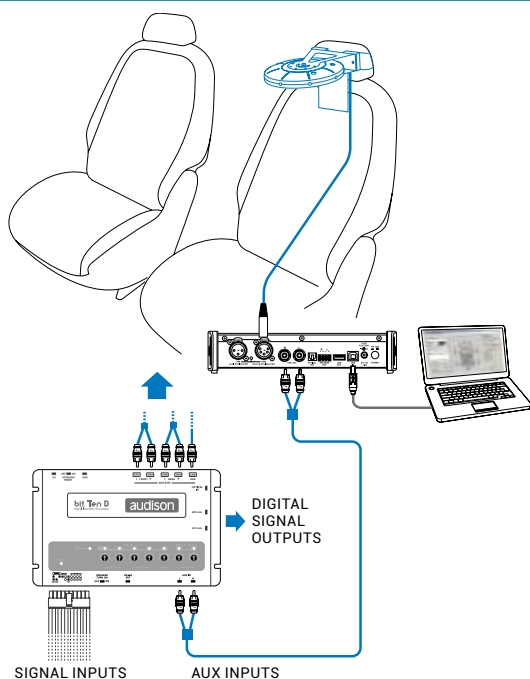

Fig 1.
1. Connect the bit Tune to the Audison bit processor, as shown in fig. 1, 2 or 3 (see points **A**, **B** and **C**). The AUTO TIME ALIGNMENT procedure must be performed in an environment that is not noisy, with the car's engine off, air conditioning off, doors and windows tightly closed and radio frequency devices away from the car's passenger compartment.